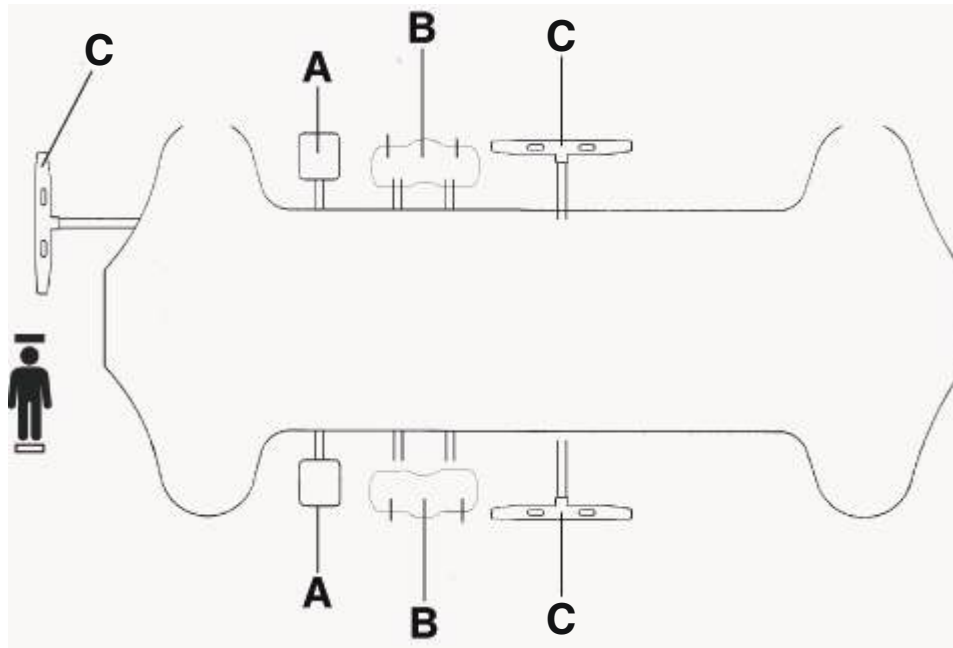

Figure 2 – Raising or lowering the litter
To raise the litter, press down on the pump pedal (A) until you achieve the desired height (Figure 2).
To lower the head end of the product, push down on the side of the uni-lower pedal (B) closest to the head end (Figure 2).
To lower the foot end of the product, push down on the side of the uni-lower pedal (B) closest to the foot end (Figure 2).